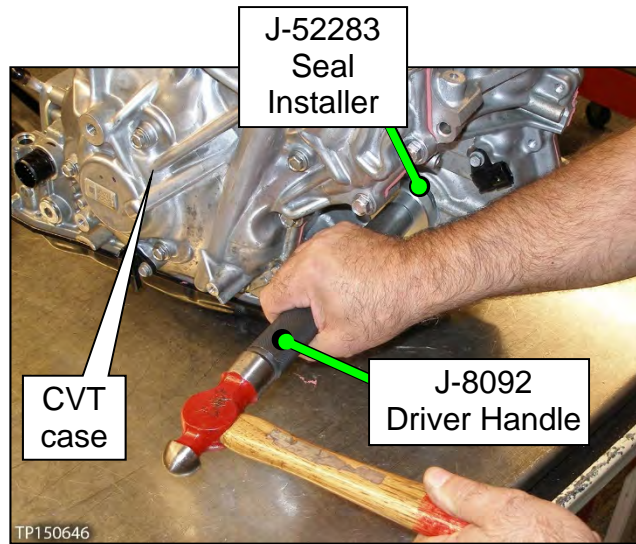

Figure 108
85. Install the CVT case side axle seal (Figure 108).